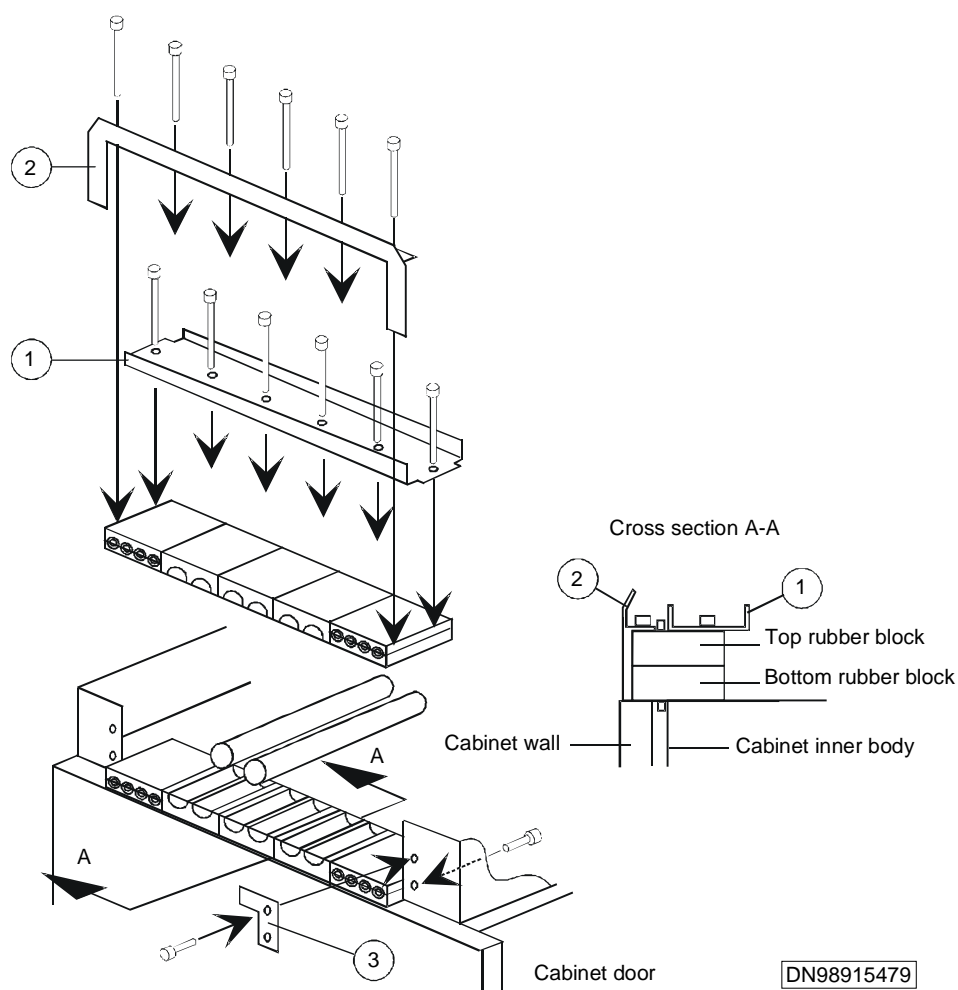

Figure 55 Cable entry assembly
4. Place the bottom rubber blocks on the cabinet top so that the rubber guides on the bottom of the blocks settle between the cabinet wall and the cabinet inner body as shown in the cross-section in Figure 55.
7. Place the part marked with (1) in Figure 55 on the rubber blocks with the wider side towards the cabinet door as shown in Figure 55 and align the fixing holes.
9. Place part (3) into position as shown in Figure 55.
10. Secure part (3) with the two remaining cover plate fixing screws. Insert the lower fixing screw from inside and the upper one from outside as shown in Figure 55.
11. Place part (2) on the rubber blocks and align the fixing holes. The rubber guides on the top rubber blocks remain between parts (1) and (2) as shown by the cross-section in Figure 55.